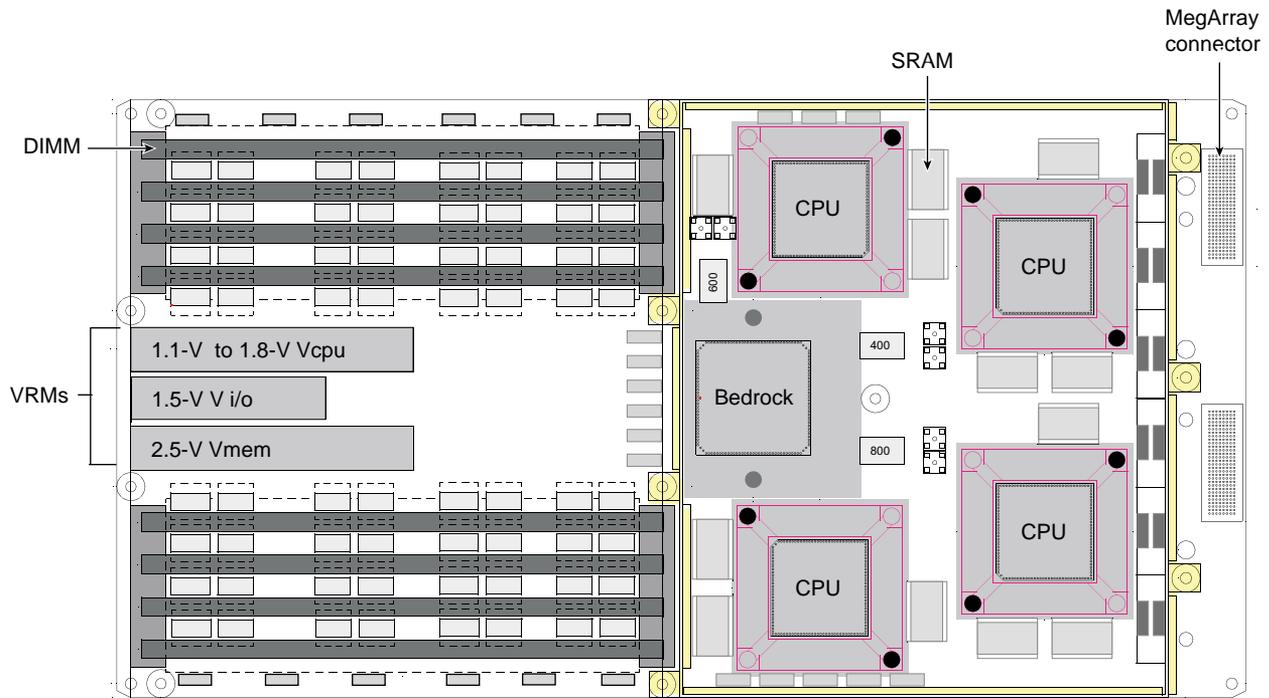

Figure 3-3 IP53 Node Board
- Up to four processors (labeled CPU in Figure 3-3).
- Primary and secondary (L2) cache. The primary cache is internal to the processor. The L2 cache is labeled SRAM in Figure 3-3.